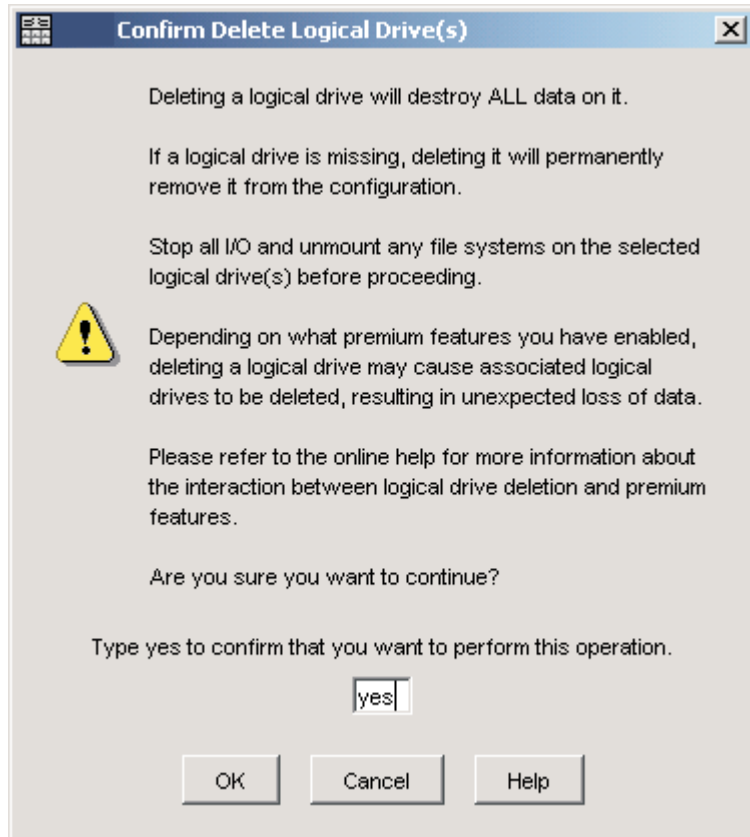

Figure 20. Delete FlashCopy Logical Drive window
3. The Delete FlashCopy Logical Drive window opens, as shown in Figure 20 on page 55. Type Yes and click **OK**.